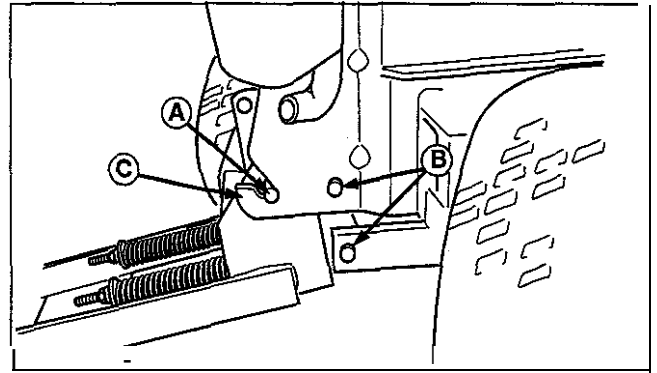

figure 31
9. See figure 31. Remove the 4 safety clips and clevis pins (B) securing the sweeper to the tractor and lift the sweeper off the attachment hooks (C).